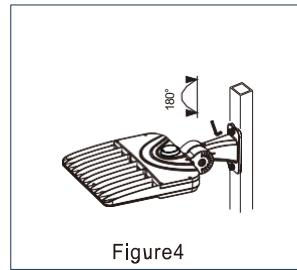

Figure4
4. Insert the mounting bracket in the pole and tighten the screws. The illumination angle is adjustable. (Figure 4)
4. Tighten the screws of mounting bracket to the bar adapter. The illumination angle is adjustable. (Figure 4)